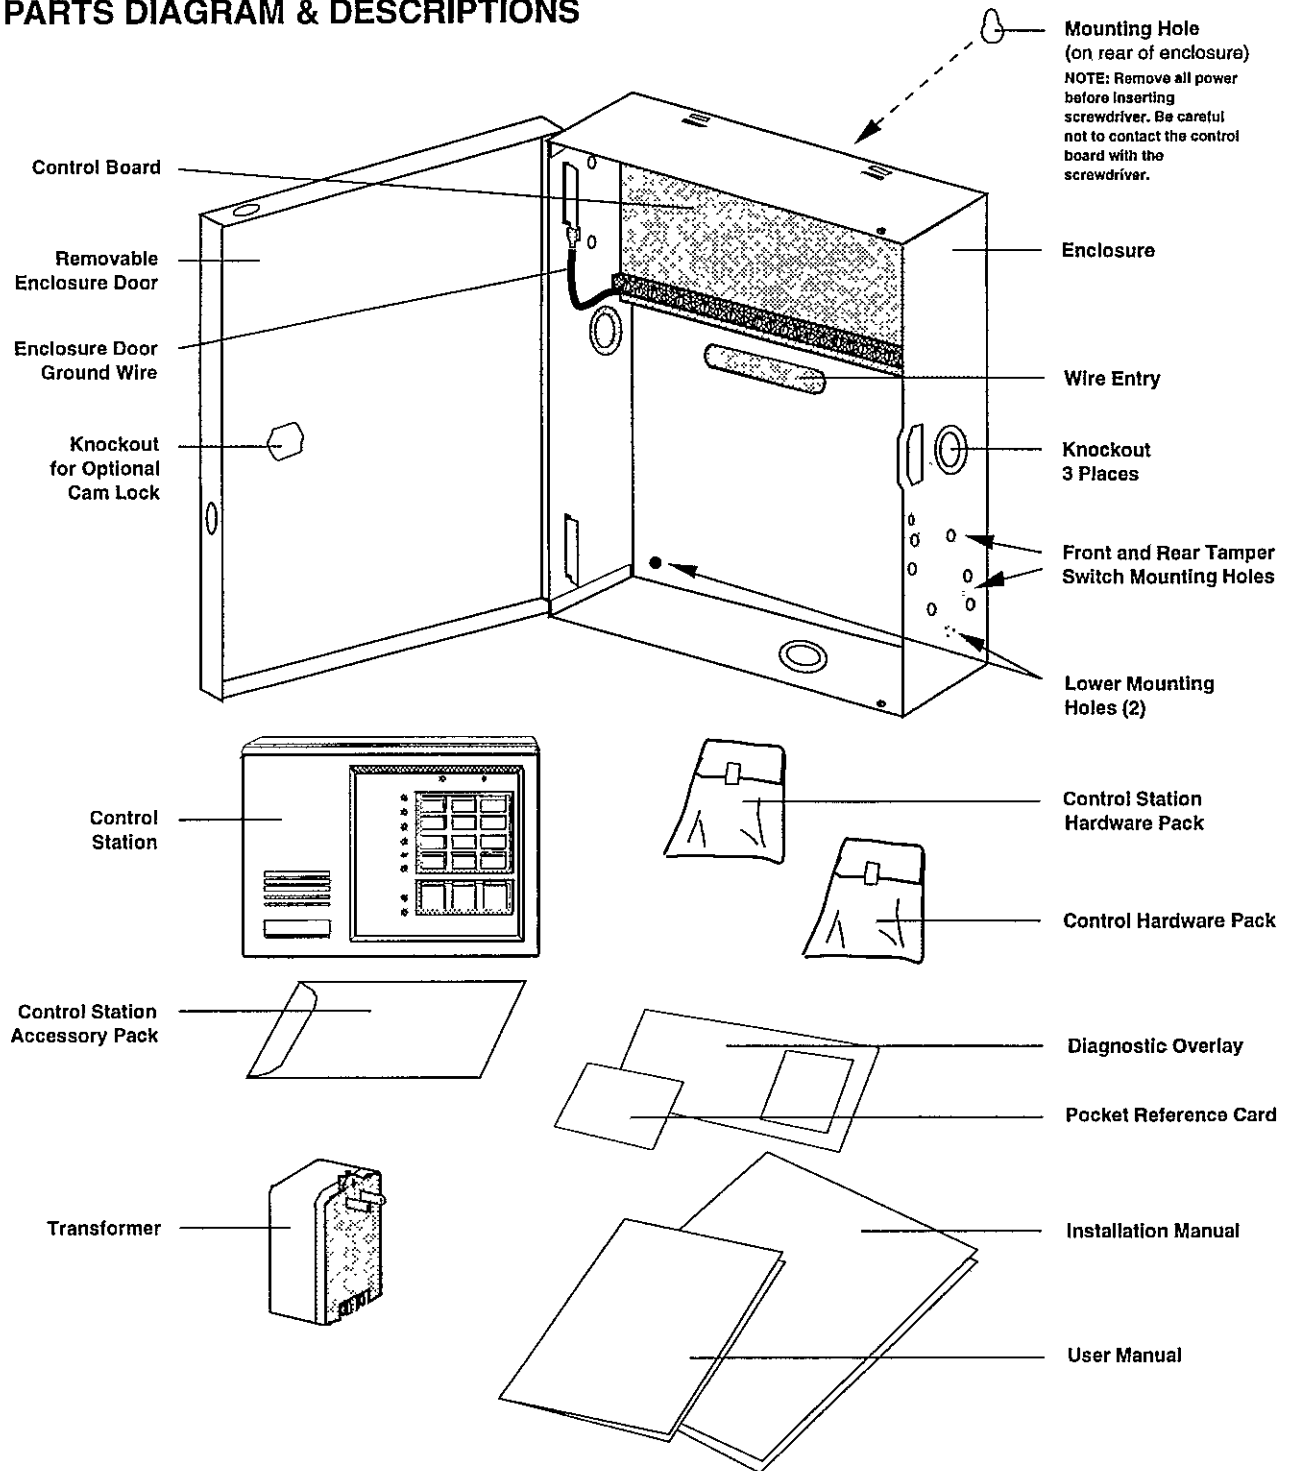

FIGURE 2 Z900 PARTS LIST
1. Remove all packing material and compare the system components with those in Figure 2, page 2 to familiarize yourself with the part names as this manual will refer to them periodically.
4. The enclosure door must be mutually grounded. Connect the female plug on the end of the green ground jumper wire (which is attached to the lower left control board mounting screw) to the bottom of the upper enclosure door hinge (see Figure 2, page 2).